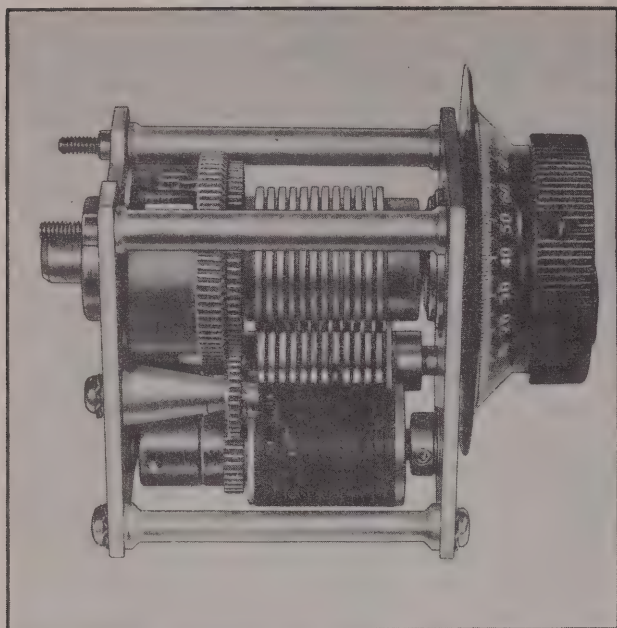

**Figure 4-15. Singleturn Autotune Unit (Type 96J)—
c. OPERATION CYCLE OF AUTOTUNE MECHANISM.—The Autotune system consists of one Multiturn unit and several Singleturn units (see figs. 4-15, 4-16, 4-17, 4-18, and 4-19) which are driven by a reversible motor through a line shaft. The Multiturn unit may be set up to select any dial setting in a continuous range of 7200 angular degrees (20 turns or revolutions) of dial rotation.